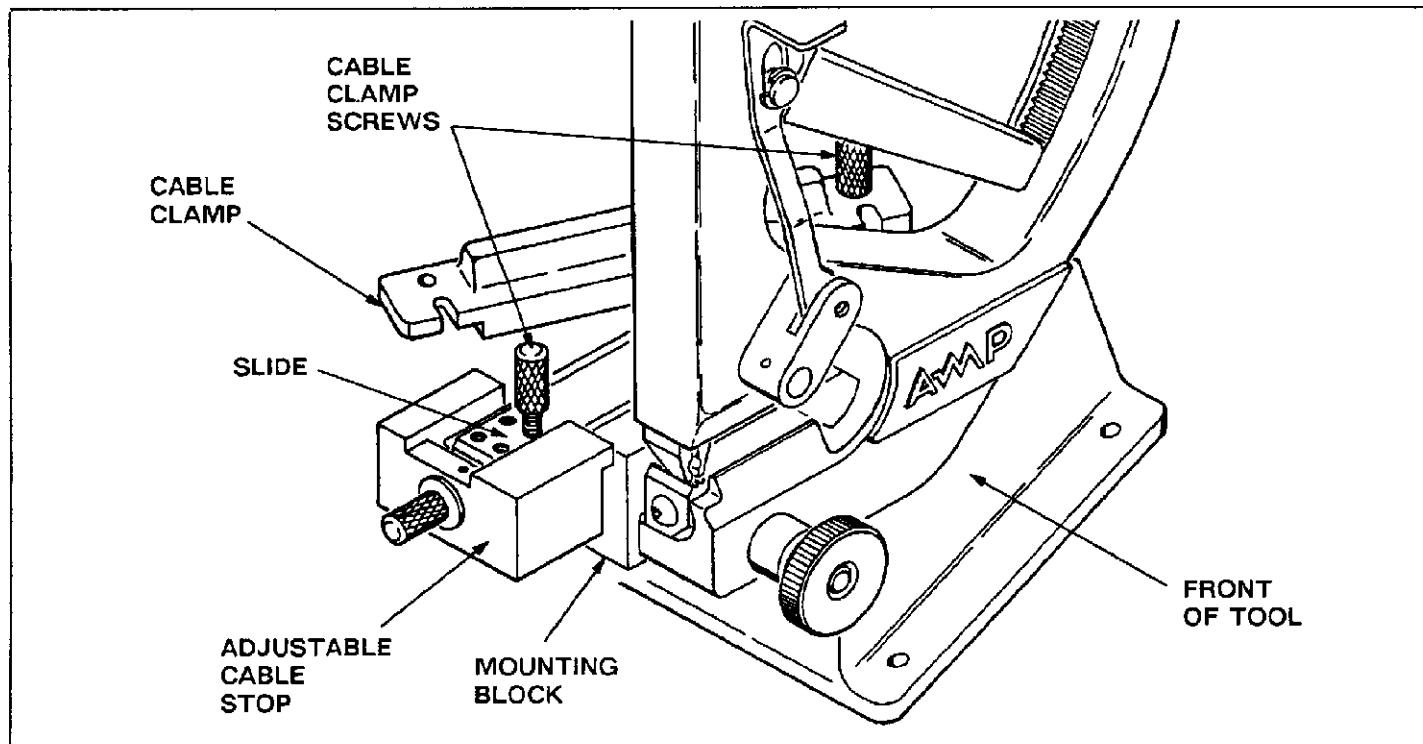

Fig. 3
1. Face the FRONT of the tool and push on the adjustable cable stop until it butts against the mounting block. Loosen, but do NOT remove, the two cable clamp screws and rotate the clamp away from the tool. Refer to Figure 3.